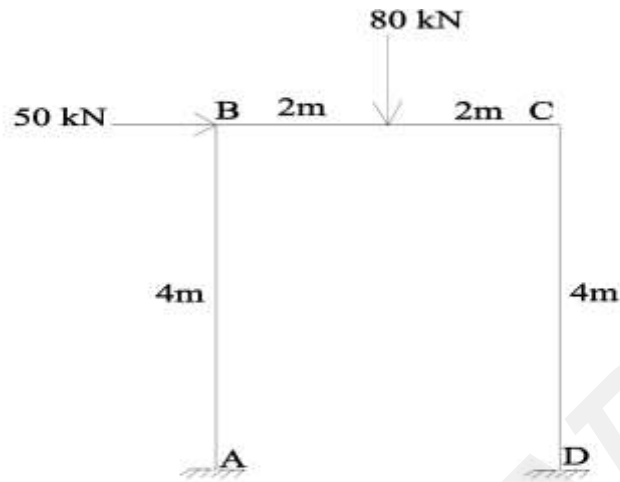

Fig.5
- 7 Analyse and draw bending moment and twisting moment diagrams for a beam semi circular in plan, and supported on three equally spaced hinges. The radius of the beam is 3.5 m and it carries a udl of 20 kN/m. (20)
- 8 a) Derive the expression for deflection at free end of a beam in the shape of a quadrant of a circle in pla, fixed at one end, with a point load at the free end. (8)
- b) Calculate the plastic moment capacity of the portal frame shown in Fig.5 assuming (12)